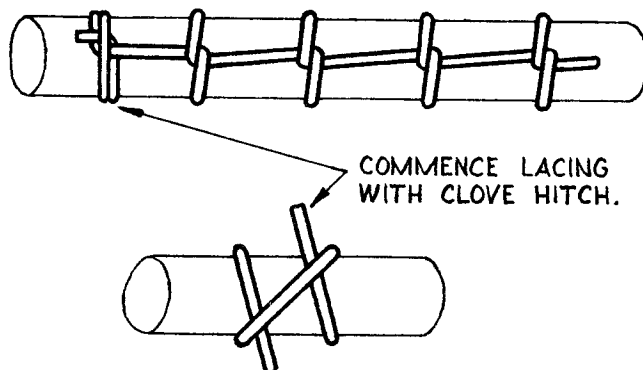

FIG. 3. START OF LACING.
2.2 Starting Lacing. Lacing must start with a clovehitch as shown in Fig. 3 and a running stitch must hold the wires firmly in position. Take care with the running stitch to see that it is done correctly and that it is always in the same direction.
The loose end of the twine must pass underneath the vertical loops as shown in Fig. 3. Normally the stitches will be 1 1/2" apart.